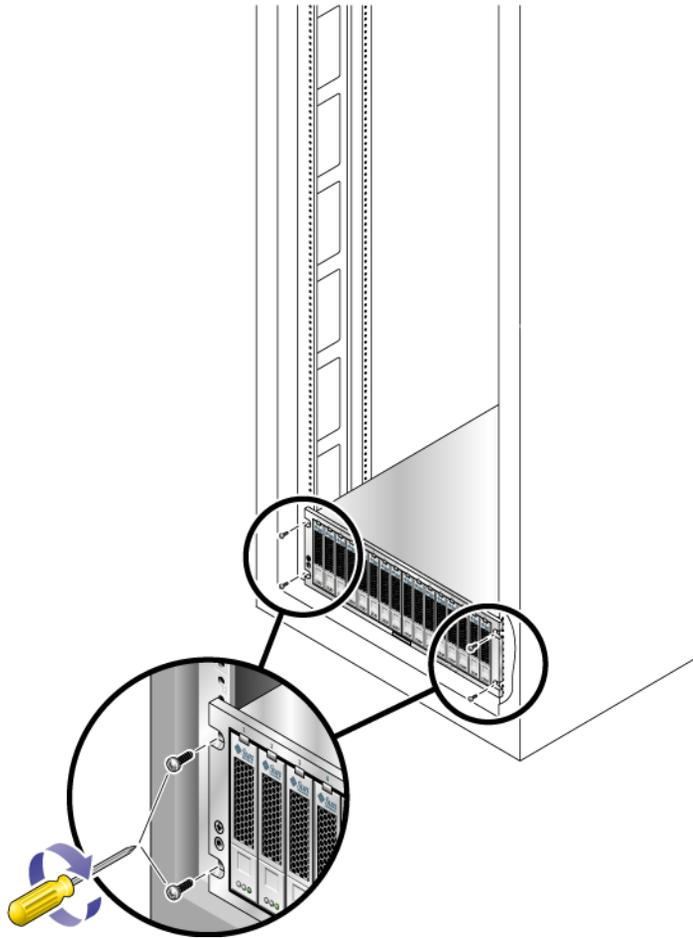

FIGURE 2-20 Securing the Tray to the Front of a Sun StorEdge Expansion Cabinet
- For the Sun StorEdge Expansion cabinet or for cabinets with 10-32 cabinet rail threads, use the #2 Phillips screwdriver to insert and tighten four 10-32 screws (two per side) to secure the tray to the front of the cabinet (FIGURE 2-20).